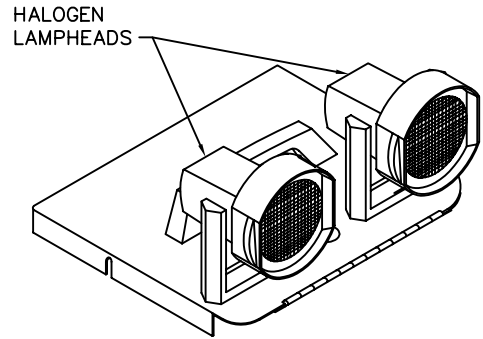

FIGURE 2
1. Prior to mounting cabinet to wall, backout screws(2) on sides of cabinet enough to swing open cover.
3. Install lampheads to cover per instructions provided with lampheads. See figure 2